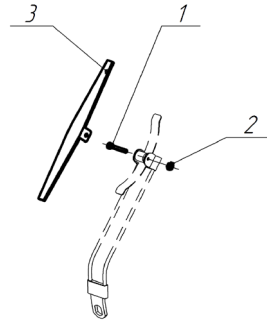

Fig. 8
4. Remove the screw (figure 8, pos. 1) from the nut (figure 8, pos. 2) that fixes the brush (figure 8, pos. 3), and replace it.